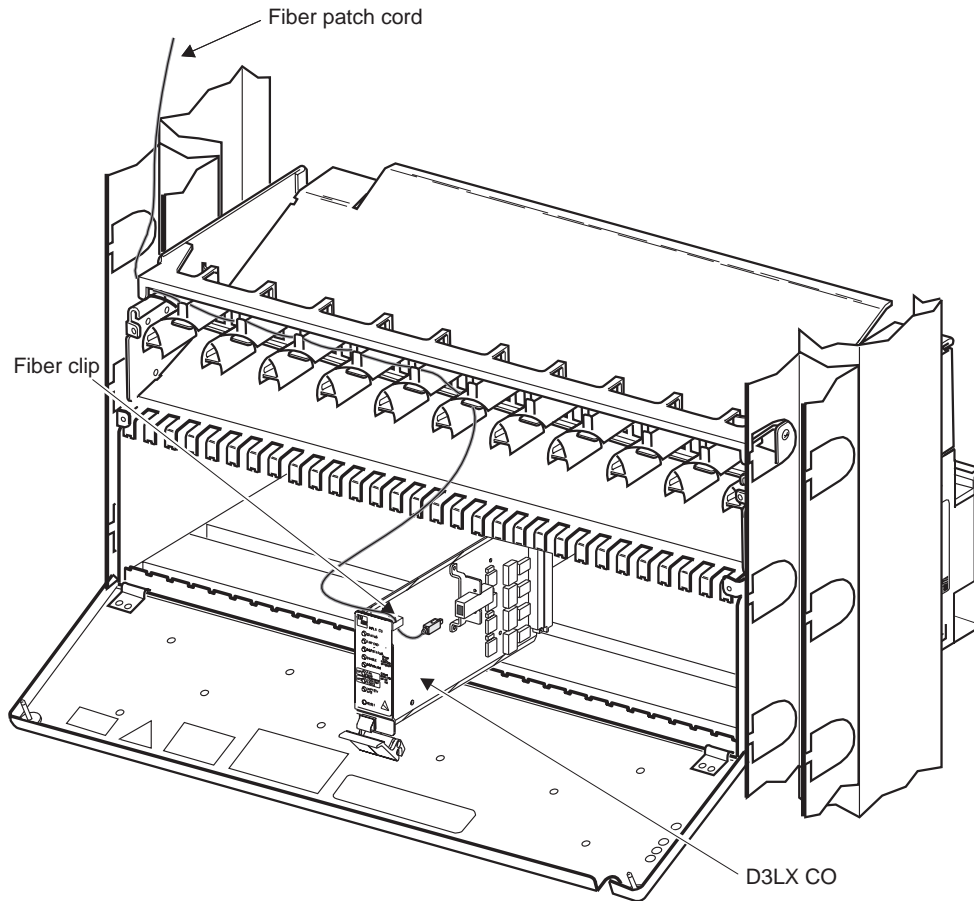

Figure 7. Installing the D3LX CO
- 7** Align the module with the slot and slide the module into the chassis until about 3 inches protrude from the front of the chassis as shown in Figure 7 on page 12. Do not seat module in connector at this time.